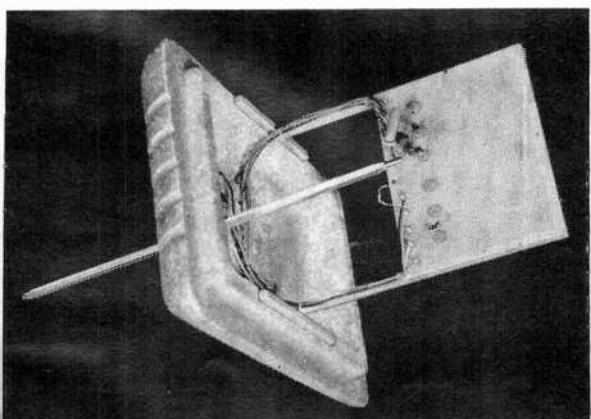

Fig. 8
**Internal Circuit Board.** As shown in Fig. 8, the internal terminal block is made from a  $4\frac{1}{2}$ " by 6" glass-epoxy laminated board mounted in a frame of  $\frac{1}{2}$ " pine strips so that the board is far enough from the cover to be well within the chamber. Make sure that the wooden frame is waterproofed with varnish. The various input binding posts can be connected to color-coded perf-board pins on one edge of the board. Various combinations of sockets and perf-board pins can be attached to the board for testing different types of circuits.
Note also, in Fig. 8, that a conventional laboratory-type immersion thermometer is inserted through the cover to check the internal temperature. The thermometer must have an appropriate temperature range so that it can be read from the outside of the chamber.